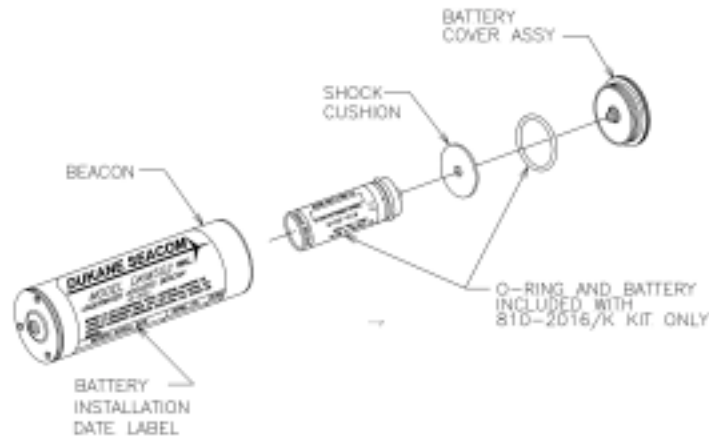

Figure 4. Beacon Exploded View Showing Relative Location of Battery and Related Parts
G. Install new battery. Be sure the end marked "INSERT THIS END FIRST " goes in first. See Figure 4. Contact Dukane Seacom, Inc. at (630) 762-4050 for replacement battery kits P/N 810-2016/K.